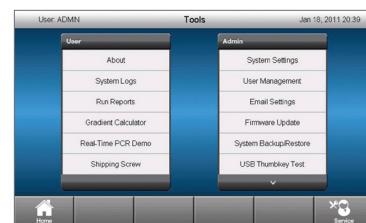

Fig. 10. Tools window following Admin log-in.
2. In the Admin tools list, select **Email Settings** (Figure 10).